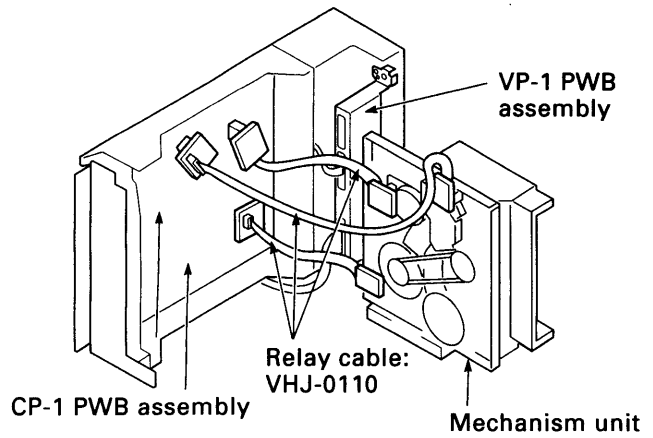

Fig. 1-2-2
The mechanism can be repaired without using the relay cable (VHJ-0110). As shown in Fig. 1-2-2, the relay cable (VHJ-0110) is a tool used for relay between the CP-1 PWB assembly and mechanism unit.
**NOTE 1:** Do not place the mechanism upright as shown in Fig. 1-2-2 when inserting/ejecting the cassette.